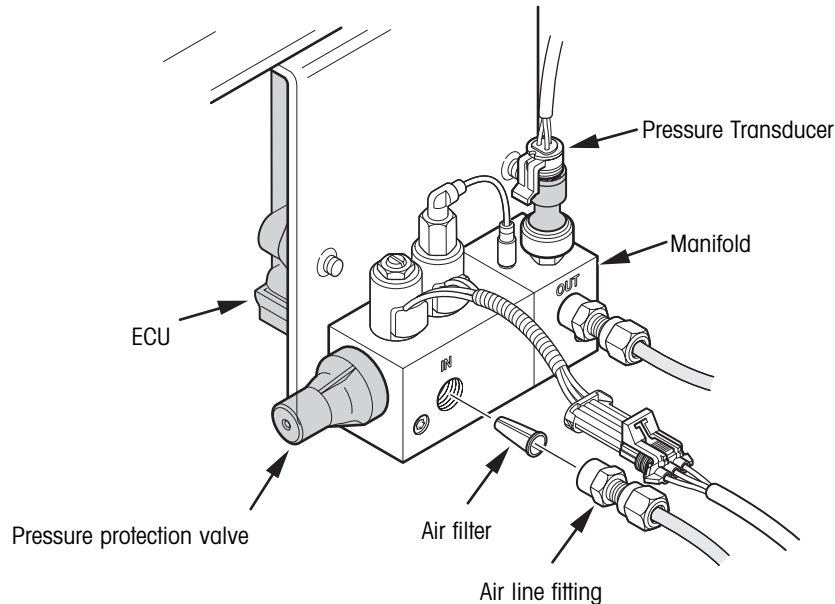

Figure 31. Manifold air filter replacement
1. Disconnect the air line from the manifold inlet and remove the fitting (figure 31).